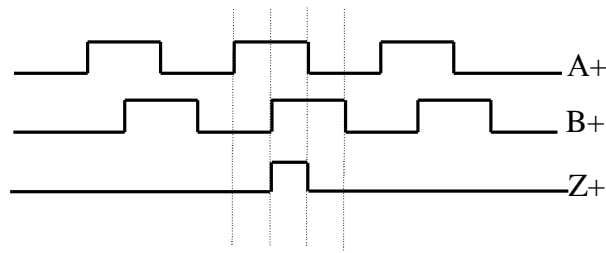

Figure 5.3
5.4.2.3 The channel operation time diagram for direct channel signals is shown in Figure 5.3 (the inverse signals **A-**, **B-**, **Z-** are not shown).